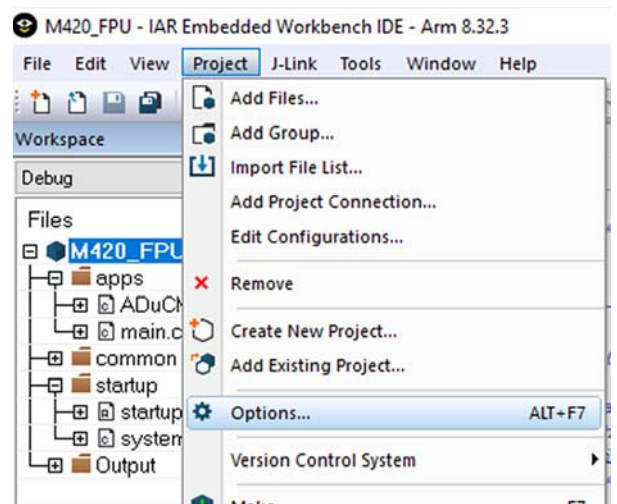

Figure 24. Selecting Options in the IAR IDE
The settings shown in the **Project** dropdown menu (see Figure 24) are available on the Keil and IAR software tool environment. By default, the floating-point unit (FPU) is disabled after the settings are disabled. Code to enable and output the floating-point value is added in the **SystemInit** function in the **system\_ADuCM420.c** file. This file is located in the example program in the ADuCM420 installer folder named **M420\_FPU** (under the **Files** list in Figure 24).
- After opening the IAR IDE, click the **Project** dropdown menu and select **Options** (see Figure 24).